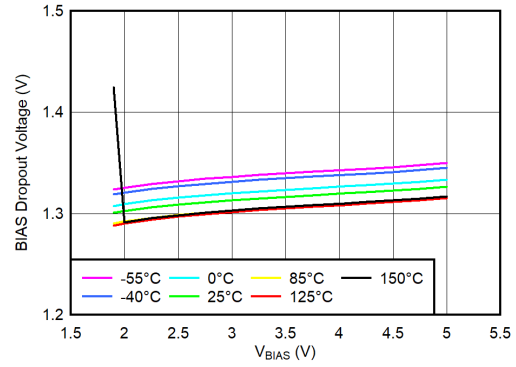

图 6-29. V_{IN} Dropout Voltage vs $(V_{BIAS} - V_{OUT})$ and Temperature (T_J)
- (1) Adjustable devices tested at 0.8 V; resistor tolerance is not taken into account.
(2) Dropout is defined as the voltage from V_{IN} to V_{OUT} when V_{OUT} is 3% below nominal.
(3) 3.25 V is a test condition of this device and can be adjusted by referring to Figure 6-29.